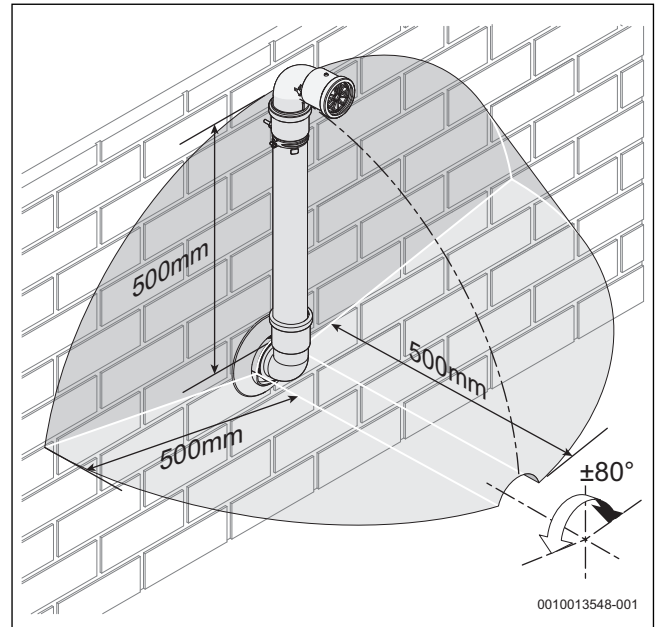

Fig. 25 Terminal exclusion zone
- ▶ Do not terminate the plume management inside the terminal exclusion zone (shaded area) shown in figure 25.